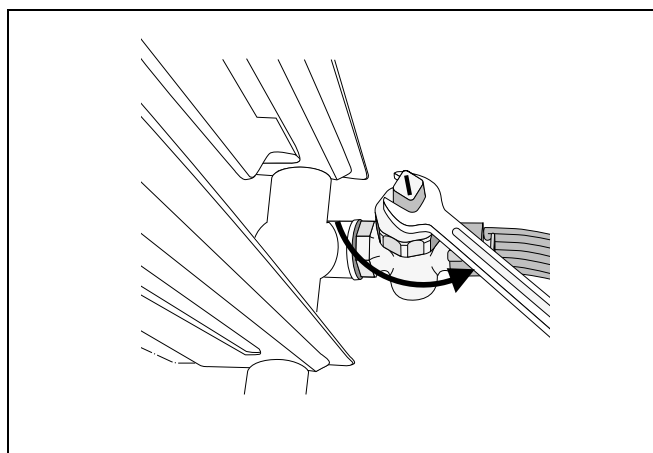

fig. 8 Draining the system
- Drain the system at its lowest point using the stop valves or radiator (see fig. 8). The automatic air vent at the system's highest point must be open.